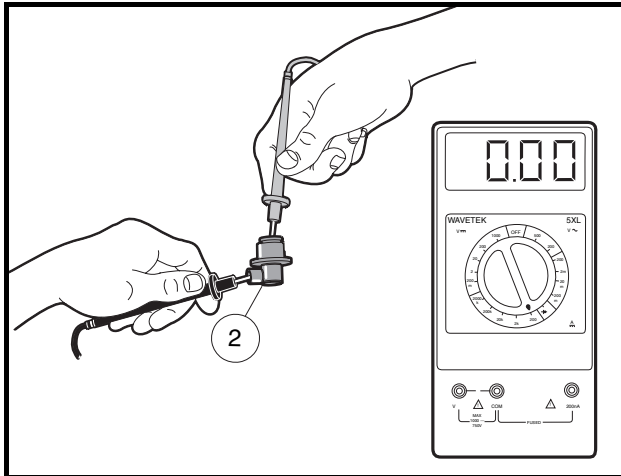

Figure 11-29 Spark Plug Cap Test
- 4.3. Using a multimeter set to 200 ohms, place the red (+) probe of the multimeter into the end of the spark plug cap that normally connects to the spark plug and place the black (-) probe into the end of the cap with the internal screw (**Figure 11-29, Page 11-28**). If no continuity, the cap has failed and must be replaced. Proceed to the next step with the spark plug cap still removed.
- 4.3. Using a multimeter set to 20k ohms, place the red (+) probe of the multimeter into the end of the spark plug cap that normally connects to the spark plug and place the black (-) probe into the end of the cap with the internal screw (**Figure 11-29, Page 11-28**). If the multimeter does not indicate continuity, the cap has failed and must be replaced. Proceed to the next step with the spark plug cap still removed.